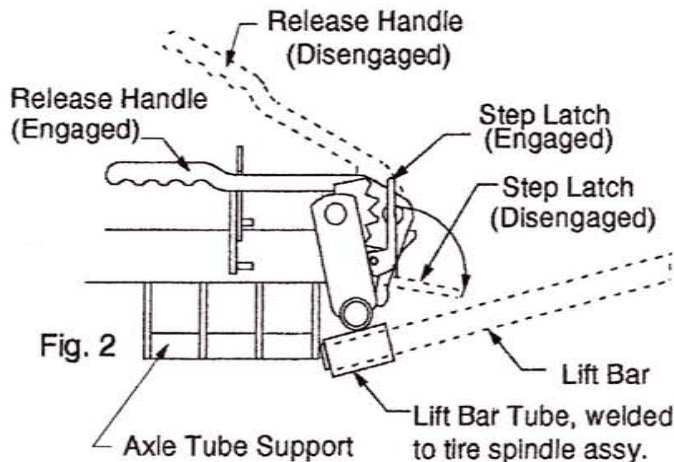
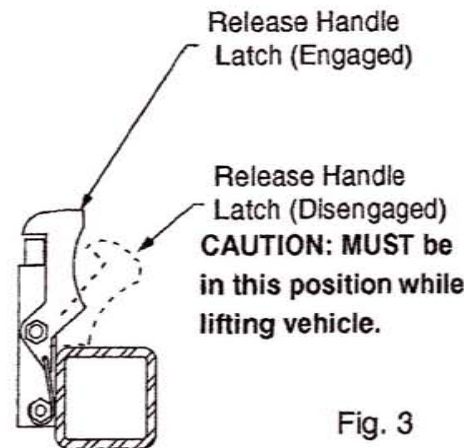

Fig. 2
Fig. 3
- 4) To assemble the dolly, the wheels of the Dollies must first be in the loading position (unlatched). To accomplish this, disengage the step latch located at each end of the side frame (see fig. 2). DISENGAGE THE RELEASE HANDLE LATCH (fig. 3) and pull up on the release handle thus freeing the spindle and allowing the frame to drop to the ground. Return the step latch to the engaged position (see fig. 2).
- 7) With BOTH HANDS firmly on the lift bar, rotate the lift bar up and all the way around, past each stop on the step-latch, until the tire spindle is fully engaged by the Release Handle and the Release Handle is in the horizontal position (see fig. 2). The lift bar must be rotated all the way around for the spindle to engage the release handle and for the release handle to become horizontal.
- 8) Engage the Release Handle Latch (see fig. 3). If the release handle is not horizontal, then the dolly is not fully raised and the Release Handle Latch will not engage properly. Do not bend or force the release handle or the release handle latch. Do not tow the dolly without fully raising the dolly and engaging the release handle latch.
- 2) Disengage the step latch (fig. 2).
- 3) Insert the lift bar into the lift bar tube (see fig. 2). While firmly holding the lift bar with one hand, disengage the release handle latch, then raise the Release Handle and slowly raise the Lift Bar until the wheel spindle clears the Release Handle.
- 2) Disengage the step latch (see fig. 2).
- 3) Disengage the release handle latch (see fig. 3).